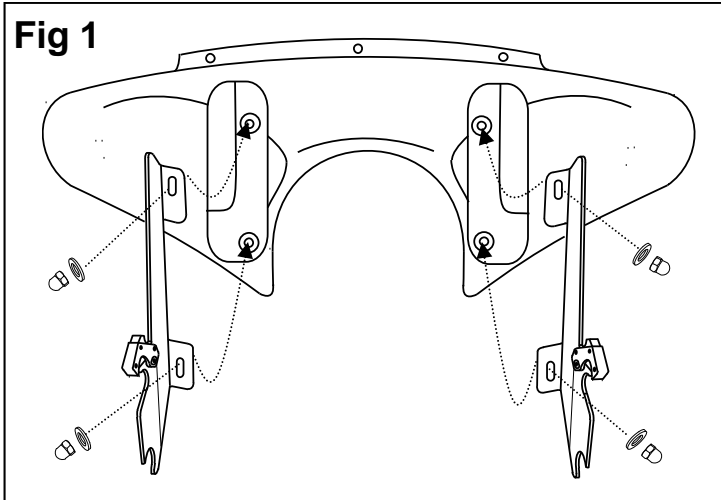

Fig 2
4. Loosely install the fork clamps, approximately 1 3/4" apart. (See Fig 2)